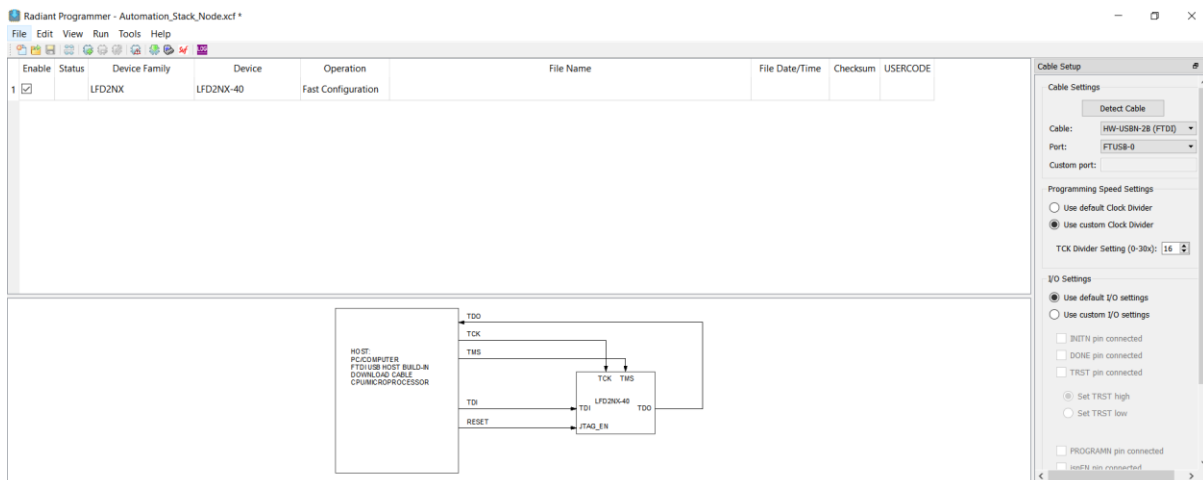

Figure B.12. Radiant Programmer - Device Properties (Node System)
4. In the Radiant Programmer main interface, select **LFD2NX** for **Device Family** and **LFD2NX-40** for **Device** as shown in Figure B.12.